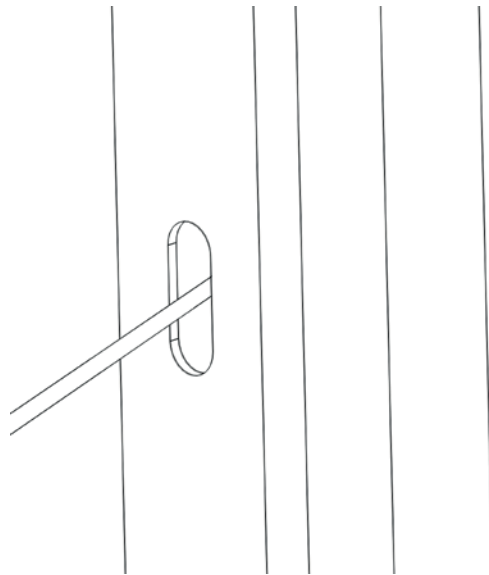

Figure 37: This example shows mounting on the door jamb. Feed the cable through the hole.
3. Cut a hole for the Mode Pad to recess for a flush mount. Feed the cable through the hole to fit the 7-pin connector (Figure 37).